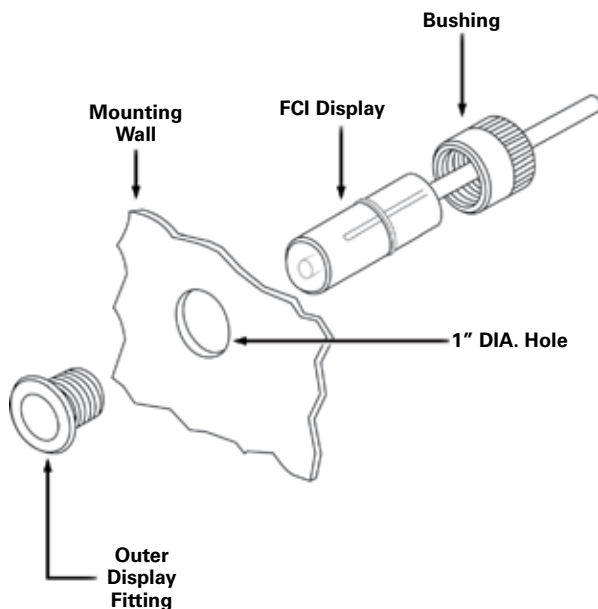

Figure 7. Small remote display installation diagram
1. **Drill** one 1" diameter hole as shown in Figure 7. Hole rim may need to be treated for corrosion resistance. Consult enclosure manufacturer for recommendation.